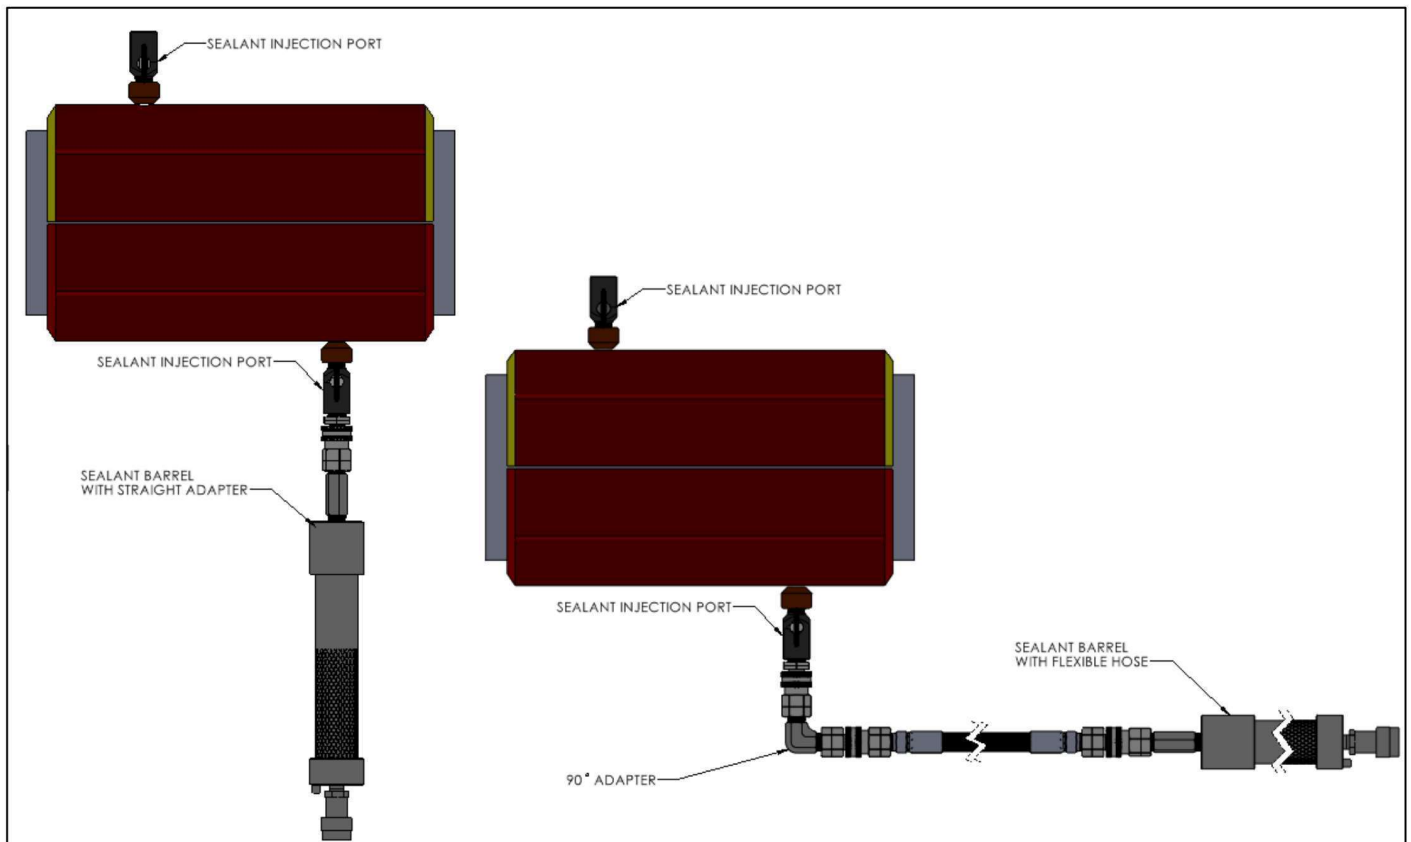
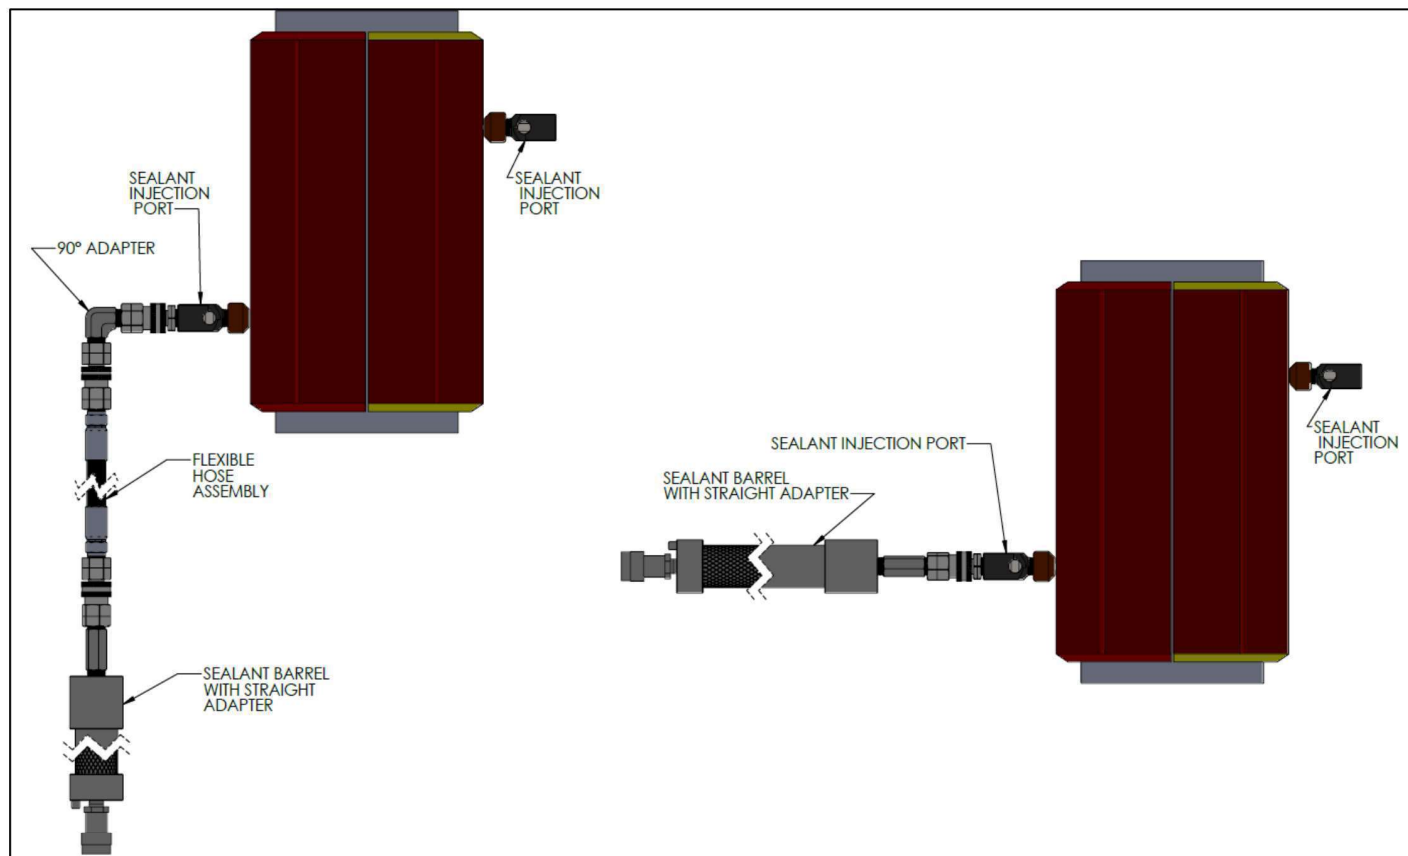

Figure 2
Figure 3
3. During installation of the PLIDCO fitting, make sure to have one sealant injection port as close to the top as possible. This will ensure the annulus of the PLIDCO fitting is completely full of sealant and all the air or liquid is pushed out of the top of PLIDCO fitting. (See Figure 2 and 3)
3. During installation of the PLIDCO fitting, make sure to have one sealant injection port as close to the top as possible. This will ensure the annulus of the PLIDCO fitting is completely full of sealant and all the air or liquid is pushed out of the top of PLIDCO fitting. (See Figure 2 and 3).
1. During installation of the fitting make sure to have one sealant injection port as close to the top and as close to the leak as possible but not directly over the leak. This will ensure the annulus of the fitting is completely full. See Figure 2 for horizontal installations. See Figure 3 for vertical installations.